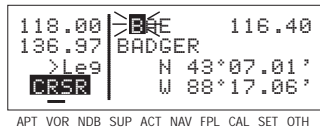

Figure 4-68
3. Change the first character to a "B" (figure 4-68).